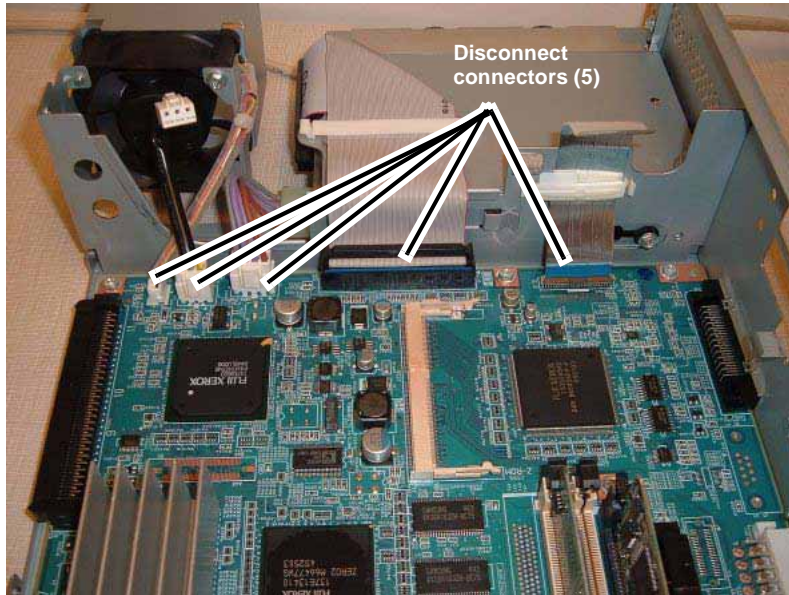

Figure 2 Disconnecting connectors
3. Disconnect connectors (Figure 2).